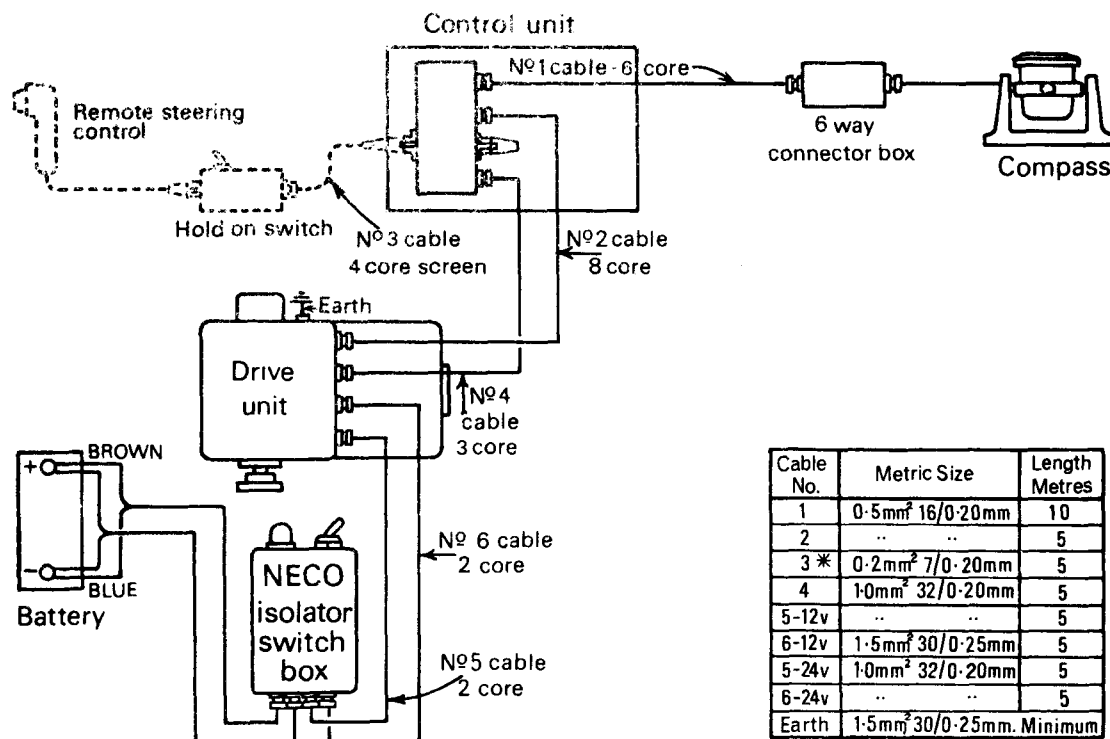
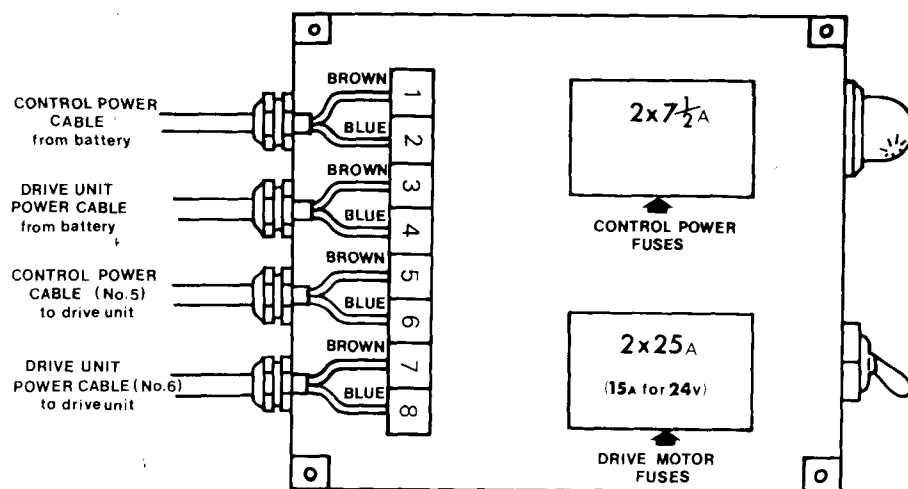

FIG. 4
FIG.10 ISOLATOR SWITCH BOX
- 3.1 **WARNING.** The Control Unit should not be 'opened up' by other than authorised servicing personnel. Attention is drawn to Section 2.1 Radio Frequency Interference. Starting from the Control Unit all cables should be routed as described hereafter and securely cleated. Care should be taken to ensure that no undue strain is placed on the cable glands. Lengths of the cables are not critical but power-carrying leads should be no longer than necessary. **CAUTION.** To avoid rotation of the cables and possible strain it is recommended that all cable glands be tightened **BEFORE** connecting up the lead-outs. Referring to the Cable Interconnections diagram Figure 4.
- 3.7 **POWER SUPPLIES.** The Drive Unit is supplied with two pairs of power leads factory fitted, as shown in Figure 4. No. 5 cable – The Control Power Cable and No. 6 – The Drive Unit Power Cable. Nos. 5 and 6 cable must **not** be connected to independent batteries, unless either the negative or positive terminals of the two batteries are common. It is recommended that both these cables should be capable of being isolated, each with its own Isolator Switch (10 amp) An Isolator Switch Box can be supplied as an optional extra and is wired up in accordance with Figure 10.
- 3.8 **No. 5 CABLE, CONTROL POWER CABLE** (2-core 1mm² 32/0.20mm) must invariably be routed direct to the battery terminals and never via a cable which is supplying power to the drive unit or other circuits, as shown in Figure 4. Failure to do this will result in poor pilot performance, as the pulse of current taken by the pilot motor by switching (together with the resistance, and possibly more important, the inductance of the cable) can produce a voltage drop of several volts for a few milli-seconds over only a short length of cable, and will cause relay flutter. The Control Unit Illumination is not controlled by the Off/On switch; this can be switched off by turning the brilliance control hard anti clockwise.